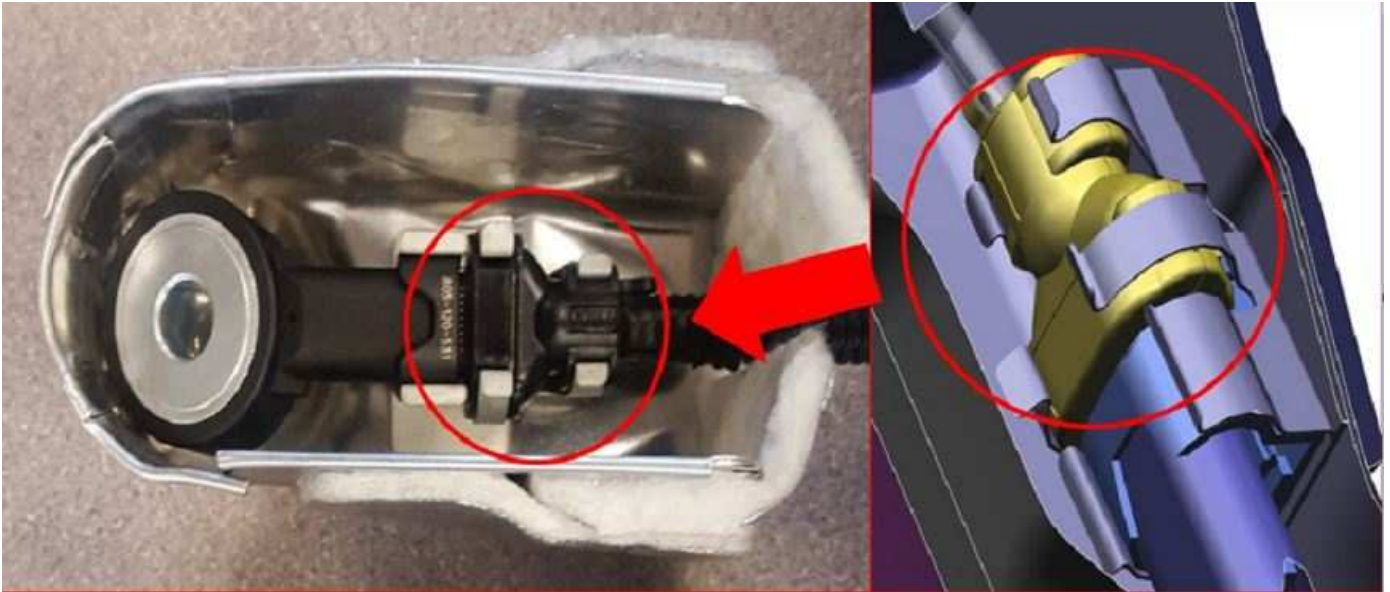

Fig. 6
- Verify that the lower clips are fully engaged or use a flashlight to see the clip is secured on the connector backshell (Fig. 6) .